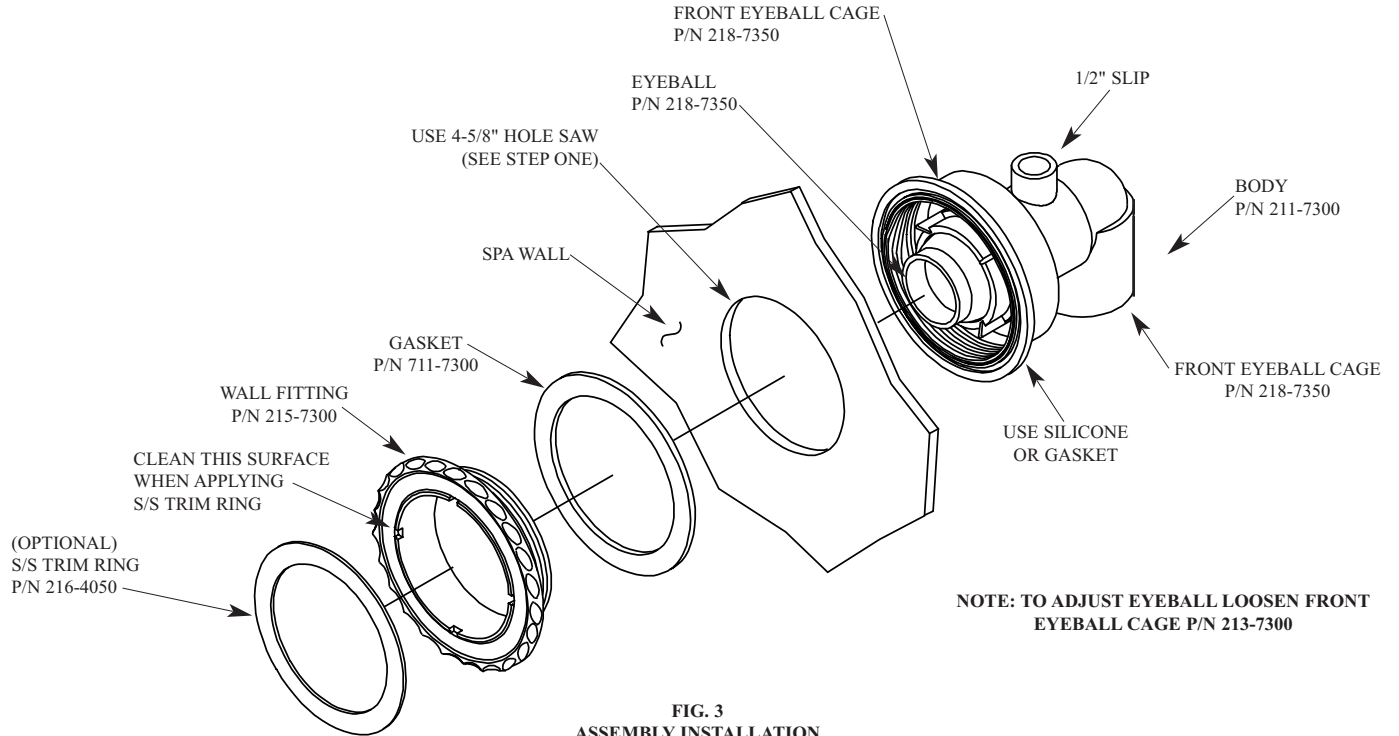

FIG. 3
- Place a gasket or apply a sealant into the groove on the body. (see fig. 3 or 5)
- clean the surface of the escutcheon with alcohol (see fig. 3)